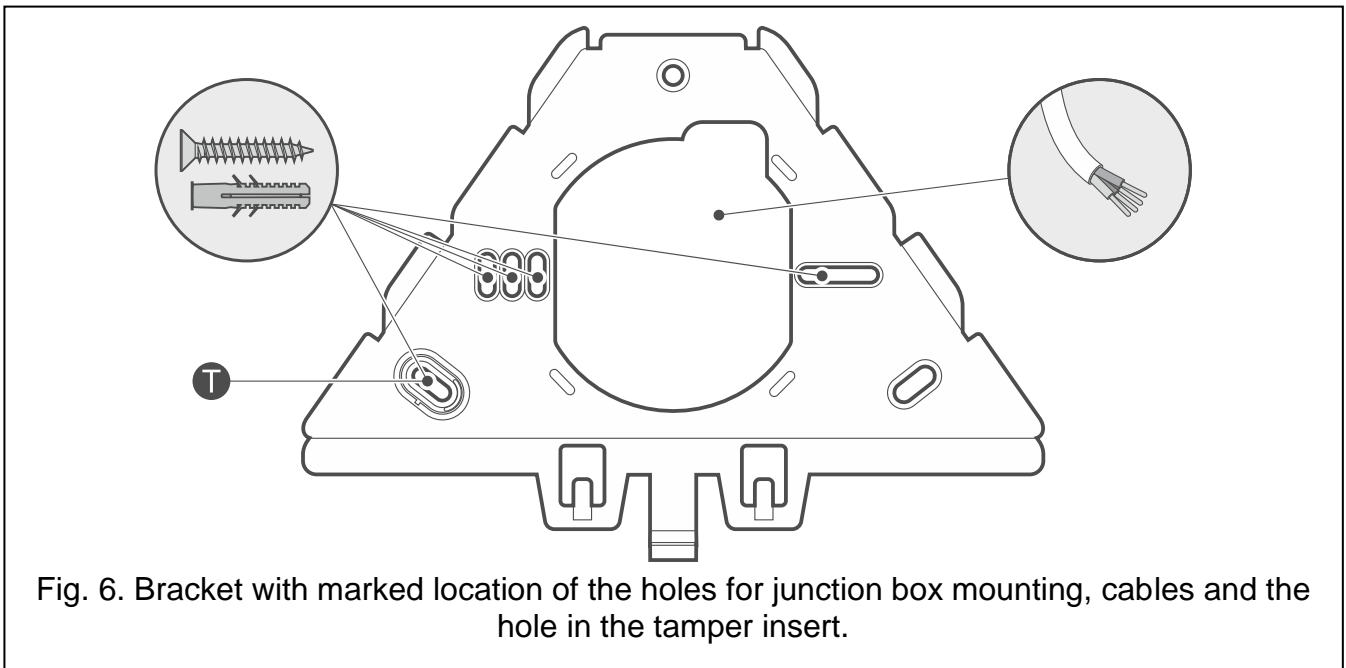

Fig. 6. Bracket with marked location of the holes for junction box mounting, cables and the hole in the tamper insert.
4. Place the bracket against the junction box so that the holes in the bracket align with the mounting holes in the junction box. Mark the location of the hole in the tamper insert on the wall (the **T** symbol in Figure 6).
6. Run the cables through the hole in the bracket (Fig. 6).